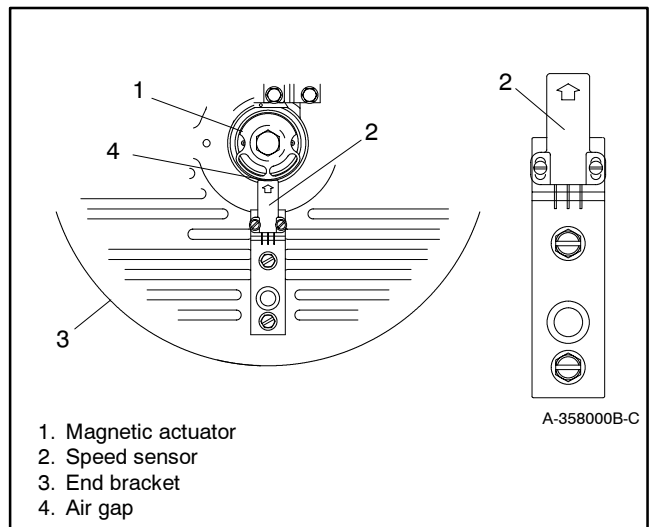

Figure 6-22 Speed Sensor Air Gap
4. Remove the speed sensor from the alternator end bracket. See Figure 6-22.
8. Reinstall the speed sensor onto the end bracket using all original hardware. See Figure 6-22. Set the air gap between the speed sensor and magnetic actuator to 0.25–0.51 mm (0.010–0.020 in.).